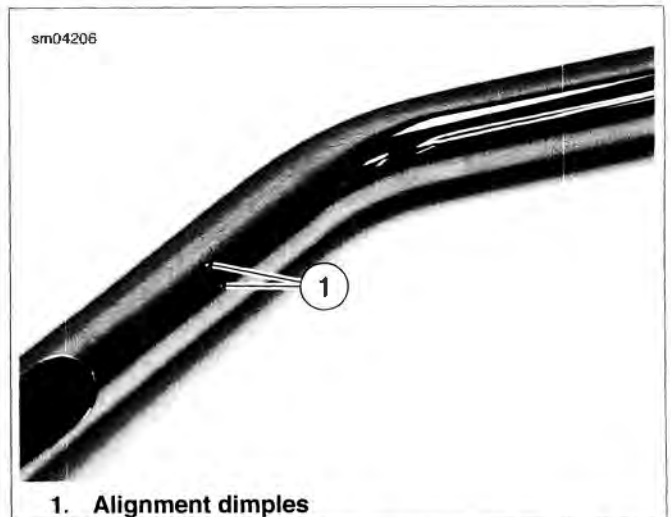

Figure 2-102. Switch Housing Alignment Dimples
See Figure 2-102. Two dimples (1) are stamped in the handle bars near the location where the clutch and front master cylinder housings will mount. The location of the joint between the clamp and housing of each should fall between the two dimples for correct alignment.